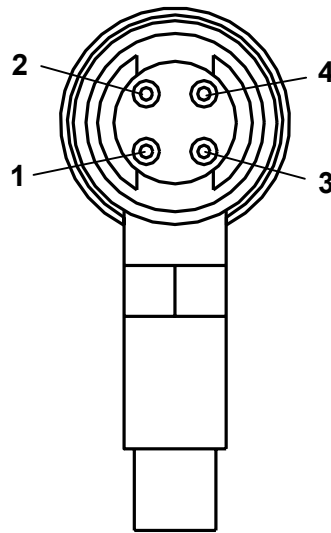

Figure 9-2. Back view of the PG105 tube, with the plastic connector removed.
1. Disconnect the Detachable Plastic Connector from the PG105 gauge head. Four feedthru connector pins are now easily accessible from the back of the gauge tube as schematically represented in Fig. 9-2.
2. Following the pin assignments of Fig. 9-2, measure the resistance between pins 1 and 4 and between pins 2 and 3. The nominal wire resistances are: